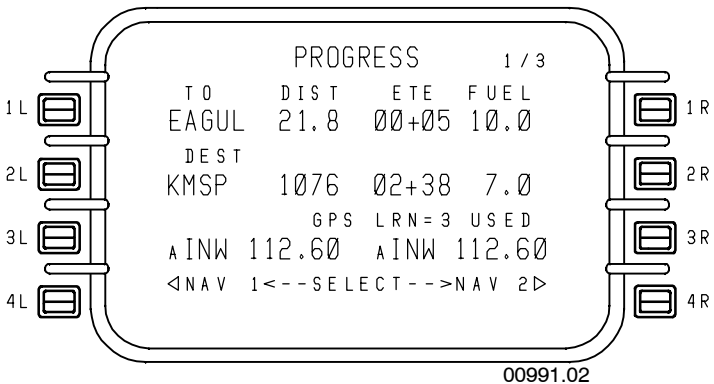

Figure 4-48
- PROGRESS 1/3** – Information available on PROGRESS page 1/3 can be displayed by pressing the PROG function key. This is shown in Figure 4-48. This page includes the navigation mode (GPS) and the number of Long Range Navigation (LRN) sensors being used (LRN=3).